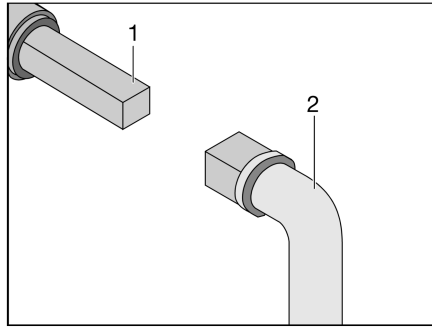

Fig. 343 Operation of the waste water tap
- Place key (Fig. 343,2) onto the square bolt (Fig. 343,1).